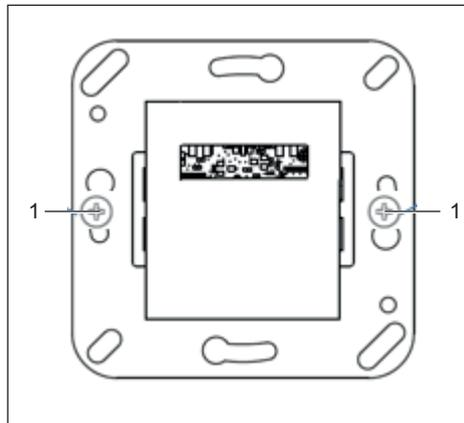

Fig. 1: Install WRU 220 reader in switch box
3. Install the reader in the pre-installed switch box (fig. 1/1).